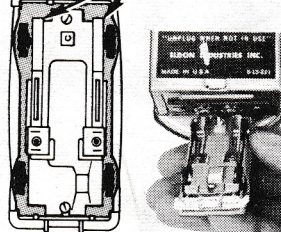

FIGURE 2
6. Car test: (fig. 2) Touch power pickups of cars directly to Power Pack screws. Car motor should run fast.